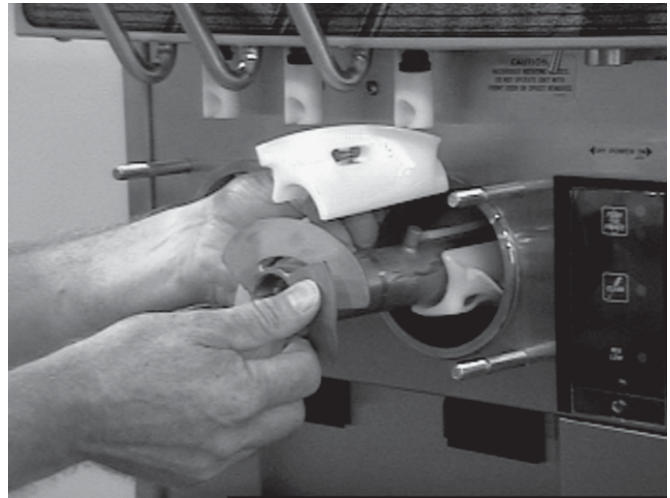

Figure 22. Auger Shafts
- F. Keep the rear of the auger shafts tipped up once they are clear of the freezer barrels to avoid dropping rear seals (Fig. 22.)